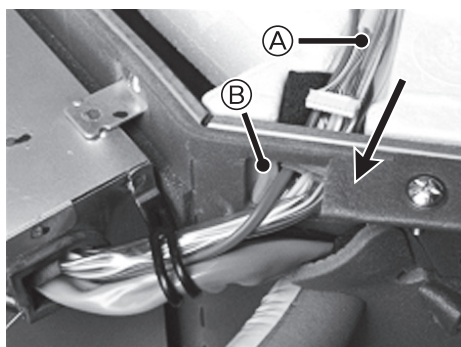

Fig. 4-2
- (1) Take out the wireless junction cable that is supplied with the accessories.
- (2) Route the indoor controller board connector (white) of the wireless junction cable through the main unit BUSH in the direction indicated by the arrow. (Fig. 4-2)